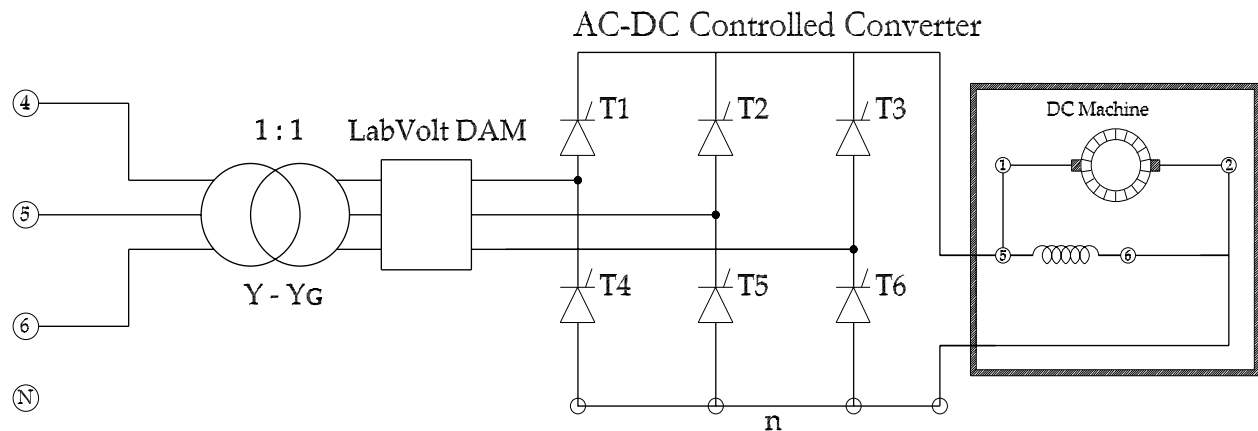

Figure 2: The 3 ϕ full-wave controlled rectifier and load.
STEP 1: Construct the circuit shown in Figure 2.